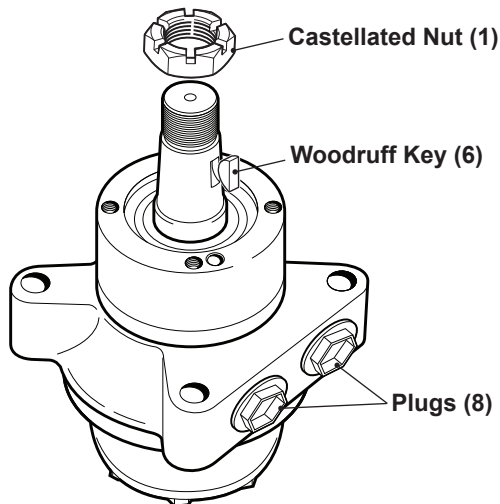

Figure 4, Nut, Woodruff Key and Plugs
2. Remove the castellated nut (1). *See figure 4.*
3. Remove the woodruff key (6) and the plastic plugs or fittings (8), if installed. *See figure 4.* Drain oil from the motor.